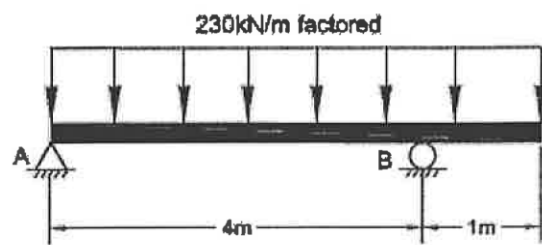

FIGURE B3
- B3. Design the beam shown in Figure B3 to resist the load shown. Assume  $f'_c = 35\text{MPa}$ .